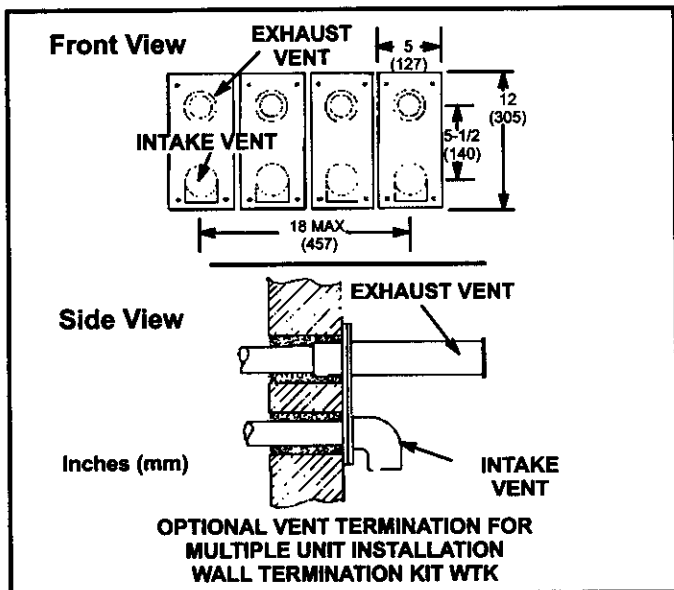

FIGURE 17
- 14 - Based on the recommendation of the manufacturer, a multiple furnace installation may use a group of up to four termination kits WTK assembled together horizontally, as shown in figure 17.